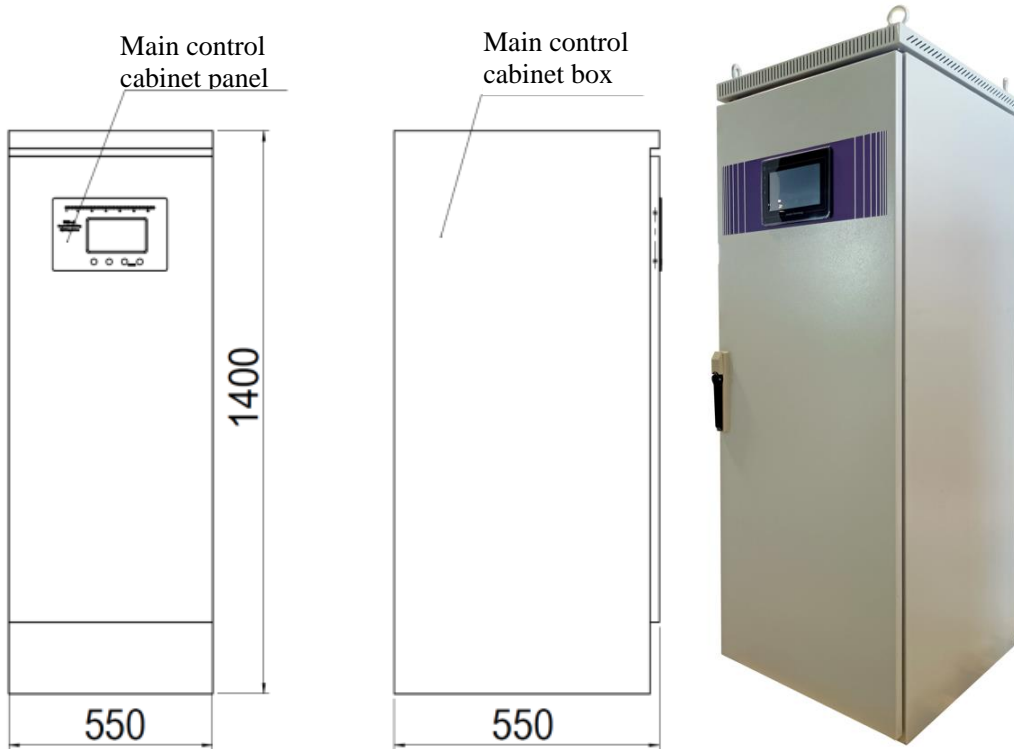

Figure 2.1 Dimension of Main Control Cabinet
1. Main control cabinet, with its dimension of 550mm ×550mm ×1,400mm; see Figure 2.1;
A main control cabinet consists of its panel and box, as shown in Figure 2.1. It is mainly responsible for controlling the whole flash light system and collecting its status. The simple appearance and personalized interface make the user to control and maintain the flash light system conveniently.